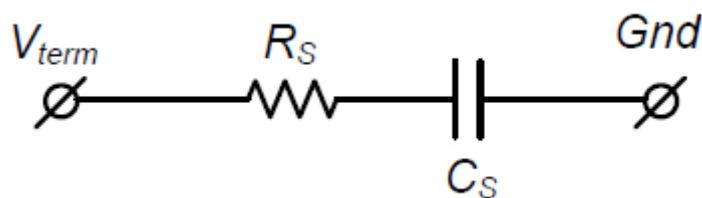

Figure 1. Low-frequency RC battery model
Battery gauges calculate essential parameters such as state of charge, state of health and remaining capacity using current and voltage measurements. Traditional Impedance Track™ technology-based battery gauges assume that the battery load varies slowly, which enables accurate resistance measurements while the battery is discharging to calculate a high-accuracy real-time state-of-charge prediction. Modeling the battery as a low-frequency resistor-capacitor (RC) model, as shown in Figure 1, is sufficient for these slowly varying battery loads. However, newer applications with variable or high-frequency load currents need a more comprehensive model and adaptive algorithm to maintain accurate state-of-charge estimations.